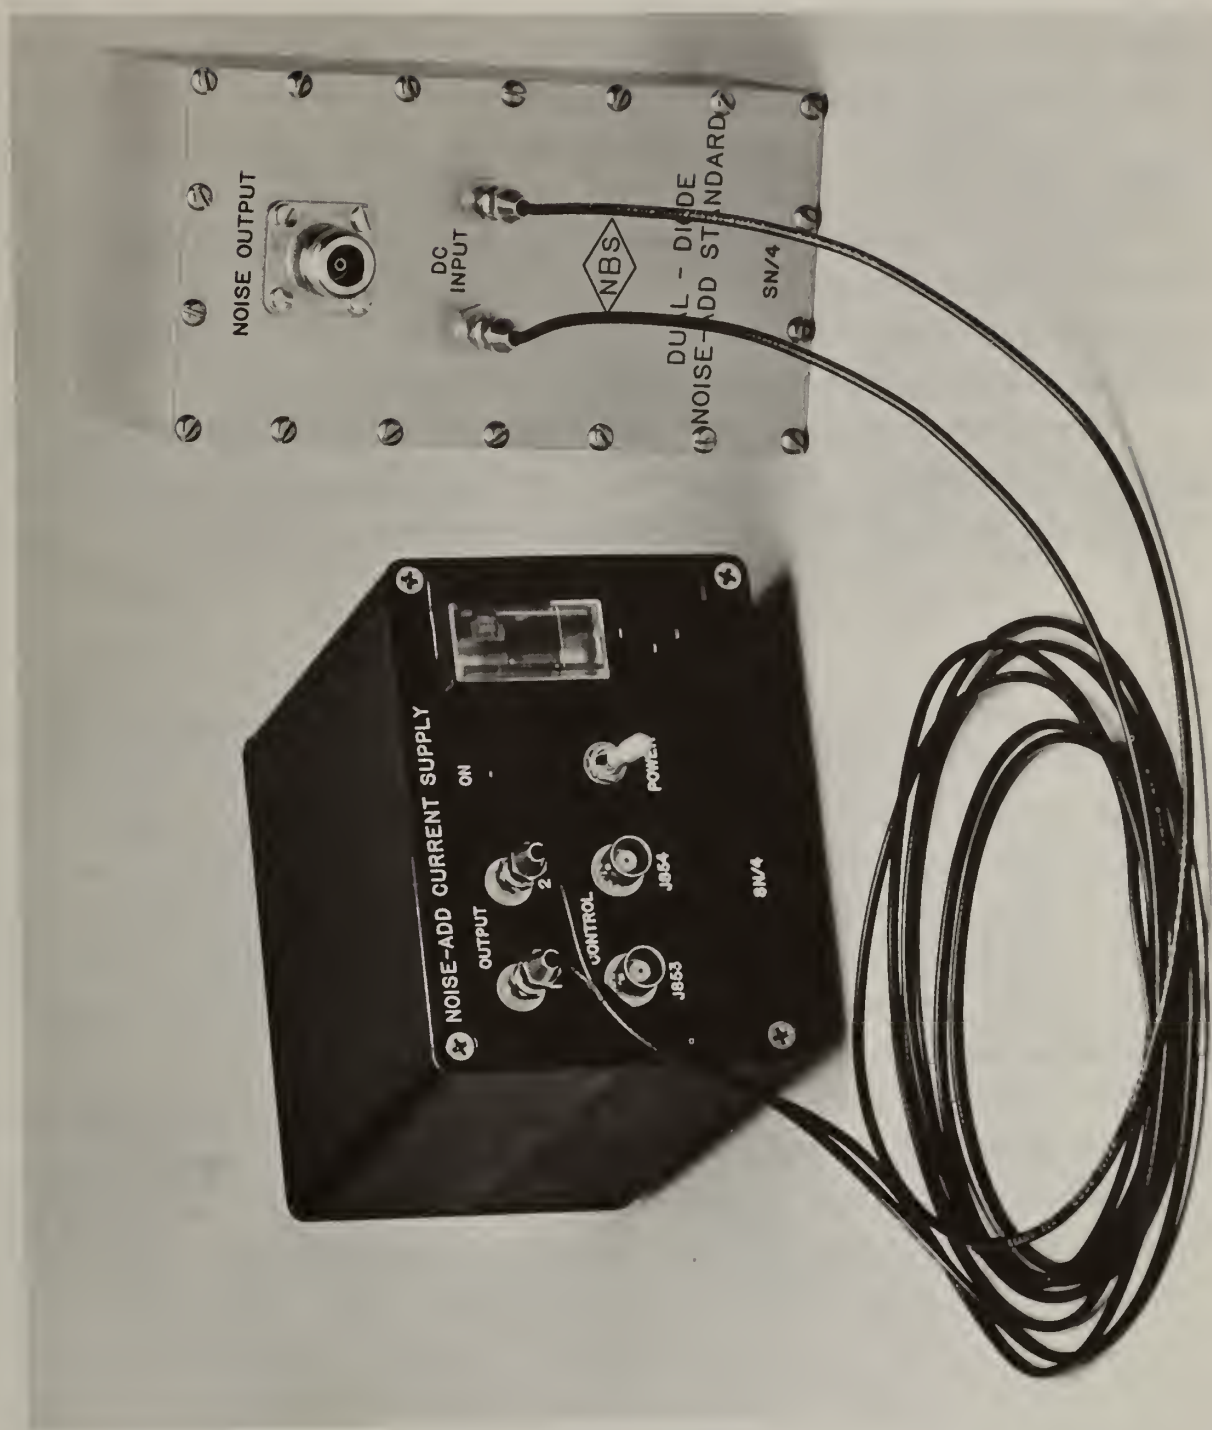

Figure 35. Noise-Add Standard Unit.
9.3 Noise-Add Module (Figure 35)